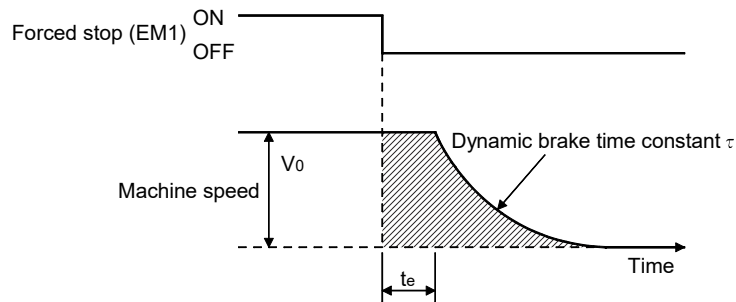

Fig. 10.3 Dynamic brake operation diagram
(1) Calculation of coasting distance
Fig. 10.3 shows the pattern in which the servo motor comes to a stop when the dynamic brake is operated. Use Equation 10.2 to calculate an approximate coasting distance to a stop. The dynamic brake time constant τ varies with the servo motor and machine operation speeds. (Refer to paragraph (2) in this section.)